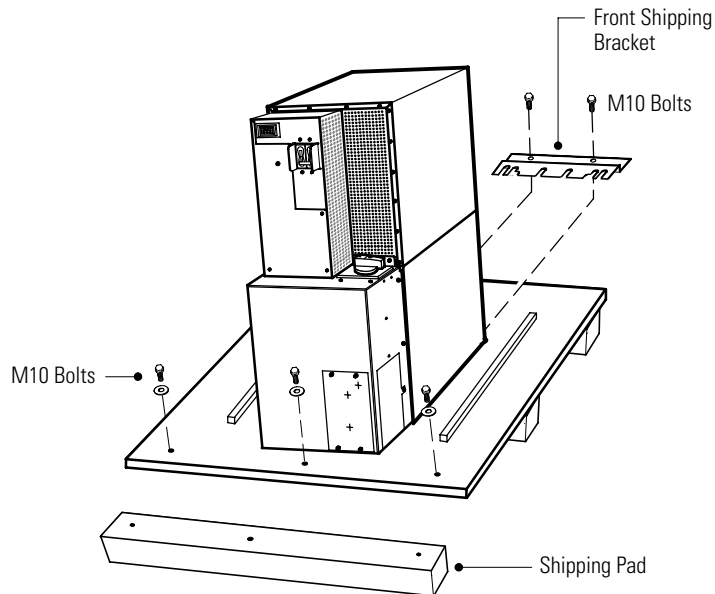

Figure 8. Removing the Front Bracket and Shipping Pad
5. Remove the three M10 bolts securing the rear shipping pad to the pallet and remove the shipping pad (see Figure 8).